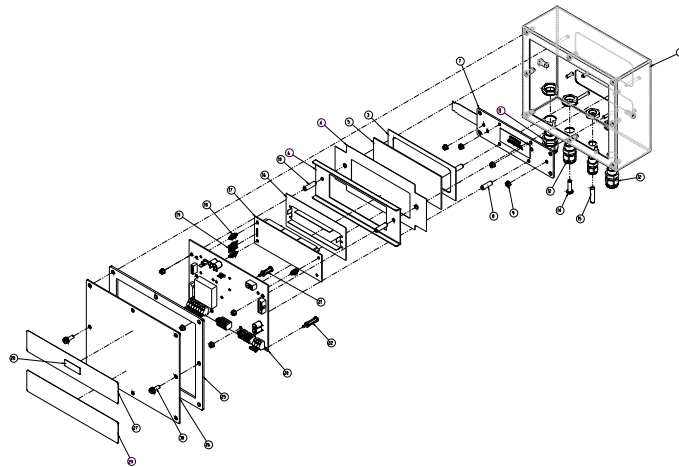

Figure 27: Model 350 I.S. Assembly Drawing
2. Use a 7 mm nut driver to fasten the keypad to the front enclosure with 4 lock nuts (8). Also install the 2 plastic spacers (7). Refer to Figure 27 for lock nut and spacer positions. Be sure not to over tighten the lock nuts. 2 lb in maximum.